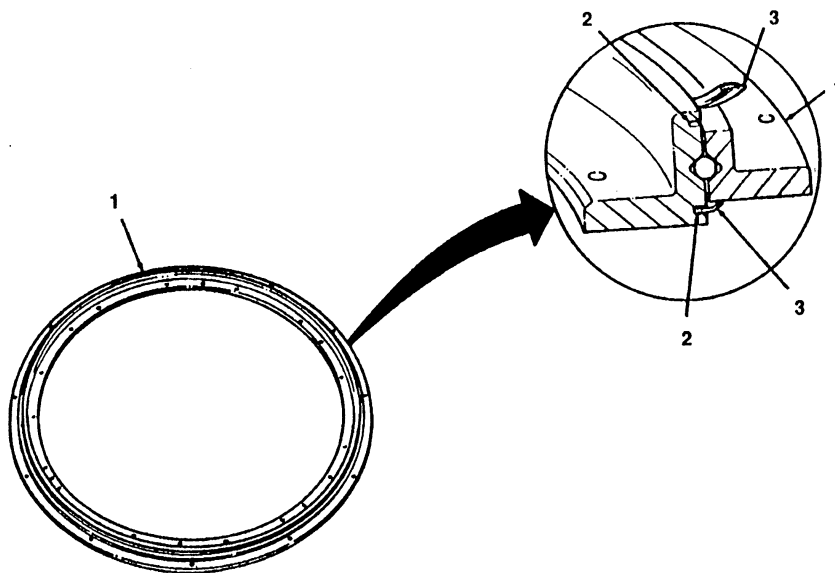

FIGURE 3-33
9. Place bearing assembly (1) on a flat surface, apply NSN 8030-01-159-4844 RTV sealant into groove (2), and install NSN 5330-01-282-2213 seal (3). (see figure 3-33)
11. Turn bearing assembly (1) over, apply NSN 8030-01-159-4844 RTV sealant into groove (2), and install the remaining eleven feet of NSN 5330-01-282-2213 seal (3). (see figure 3-33)